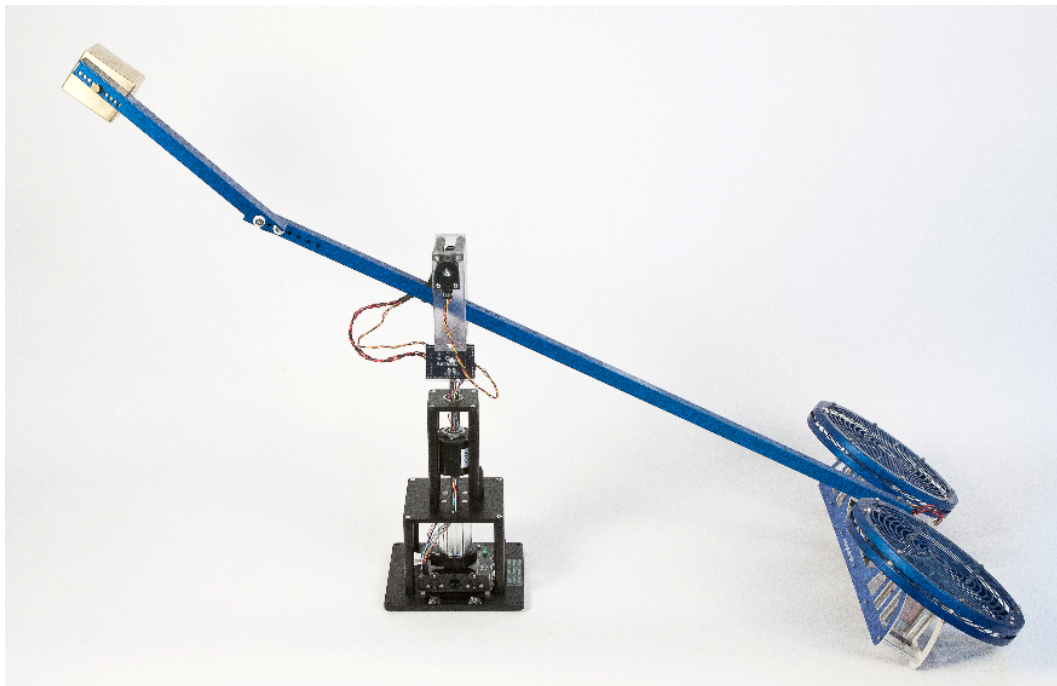

Figure 3.8: Starting position of the 3 DOF Helicopter system.
8. The standard setup, in the default configuration, and starting position for the 3 DOF Helicopter system is depicted in Figure 3.8.